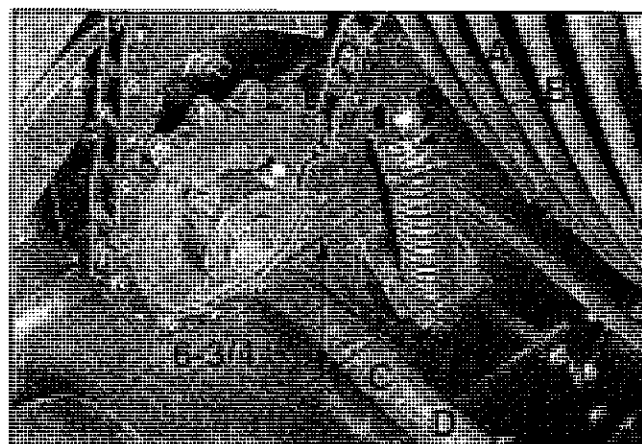

Figure 2.26: Wheel Elevator Drive (Shields Removed for Clarity). (A) - Top Jam Nut; (B) - Top Adjustment Nut; (C) - Bottom Jam Nut; (D) - Bottom Adjustment nut.
Loosen jam nut (A) (see Figure 2.26) and turn adjusting nut (B). Check this adjustment by pulling the chain away from the rear of the wheel elevator. A distance between 1/2" and 1-1/2" (see arrows (C), Figure 2.25) indicates proper chain tension).
Set dampener spring length to 6-3/4" (see arrows, Figure 2.26 by loosening jam nut (D) and turning adjustment nut (C). This should be preset from the factory.
Operate the elevator until the chain connector link is positioned near the drive shaft for easy removal. Loosen jam nut (A) (see Figure 2.26) and turn adjusting nut (B) until maximum chain slack is obtained, then disconnect chain.
- * 2. Ferris wheel idler pivot every 20 to 40 hours (see Figure 2.26).
- Δ 3. Ferris wheel drive flange block bearings (see Figure 2.26).